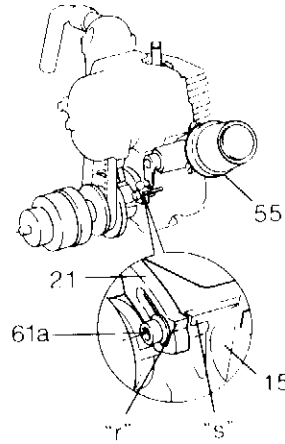

Fig. 15
Timing interval adjustment (Fig. 15)
Air Filter (55) (Fig. 15)